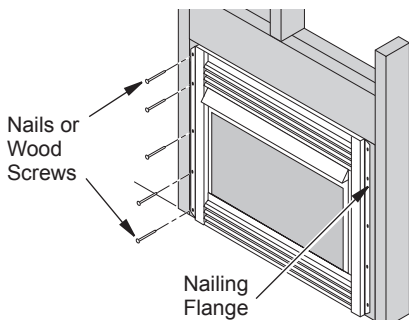

Figure 15 - Attaching Fireplace to Wall Studs
6. Attach fireplace to wall studs using nails or wood screws through holes in nailing flange (see Figure 15).